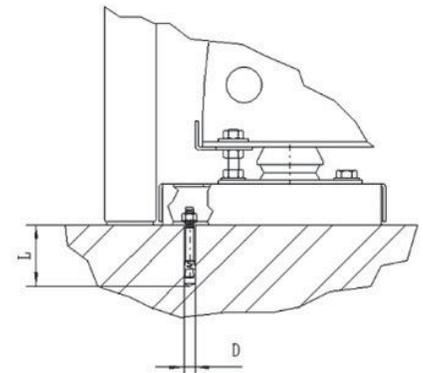

FIGURE-2.5
- Drill the floor as indicated in Figure-2.5.